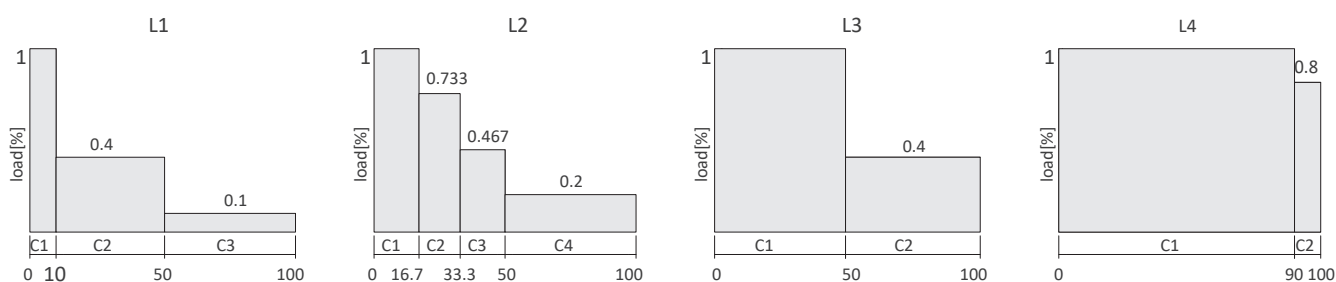

Figure 3 Crane load spectrum
5.3 Typical load spectrum for crane (figure 3)